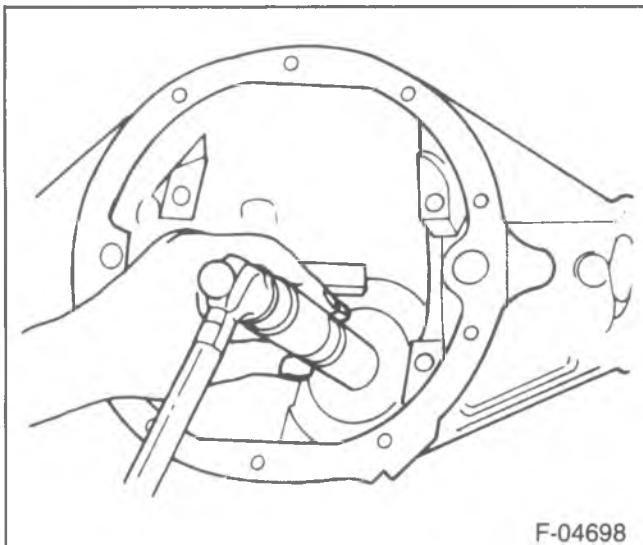

Figure 27—Rear Pinion Bearing Cup Installation
2. Rear pinion bearing cup (5) using J-8608 and J-8092 (figure 27).